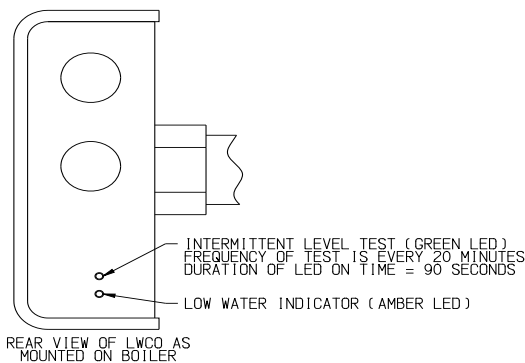

Figure 12-1: CG-400 Low Water Cut-Off
3. LWCO Probe Check - Turn on power to the boiler. Both the green power light and the yellow low water light should come on (Figure 12-1).
6. LWCO Probe Check - Turn on power to the boiler. Both the green power light and the yellow low water light should come on (Figure 12-1).